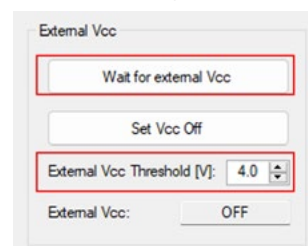

Figure 8: External V_{CC} control panel
3. Return to the main GUI External VCC options (Figure 8) and verify the threshold is set to 4.0 V. When all devices are properly connected to the hardware, the user can click “Wait for external VCC”. Devices will unlock simultaneously once rising edge is observed on this pin.